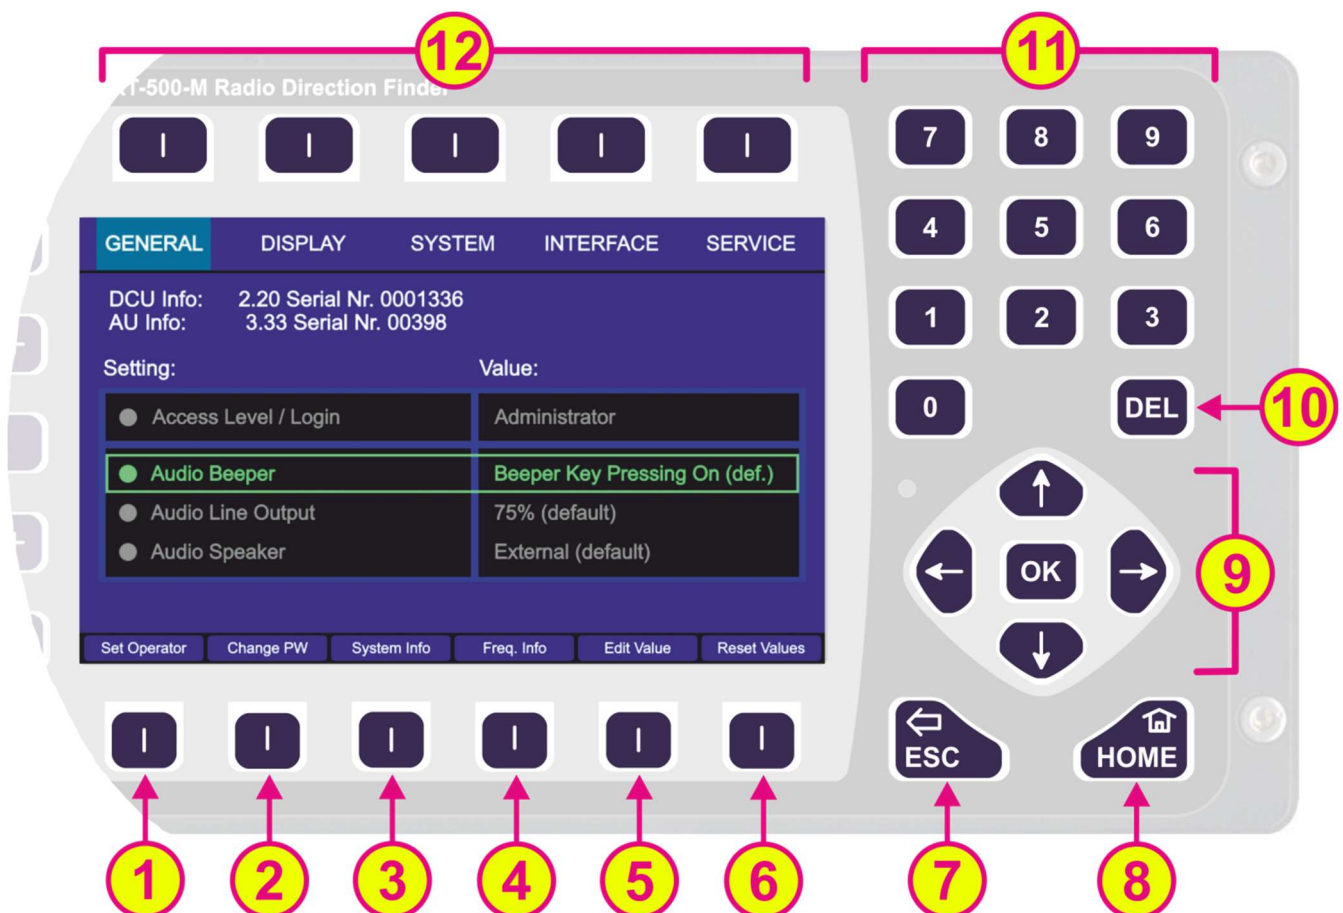

Figure 71. Setup page. General settings (administrator view)
After selecting the "Setup" over the corresponding hotkey (Figure 8, pos. 16) on the "Bearing" page, the following menu page opens (s. Figure 71).